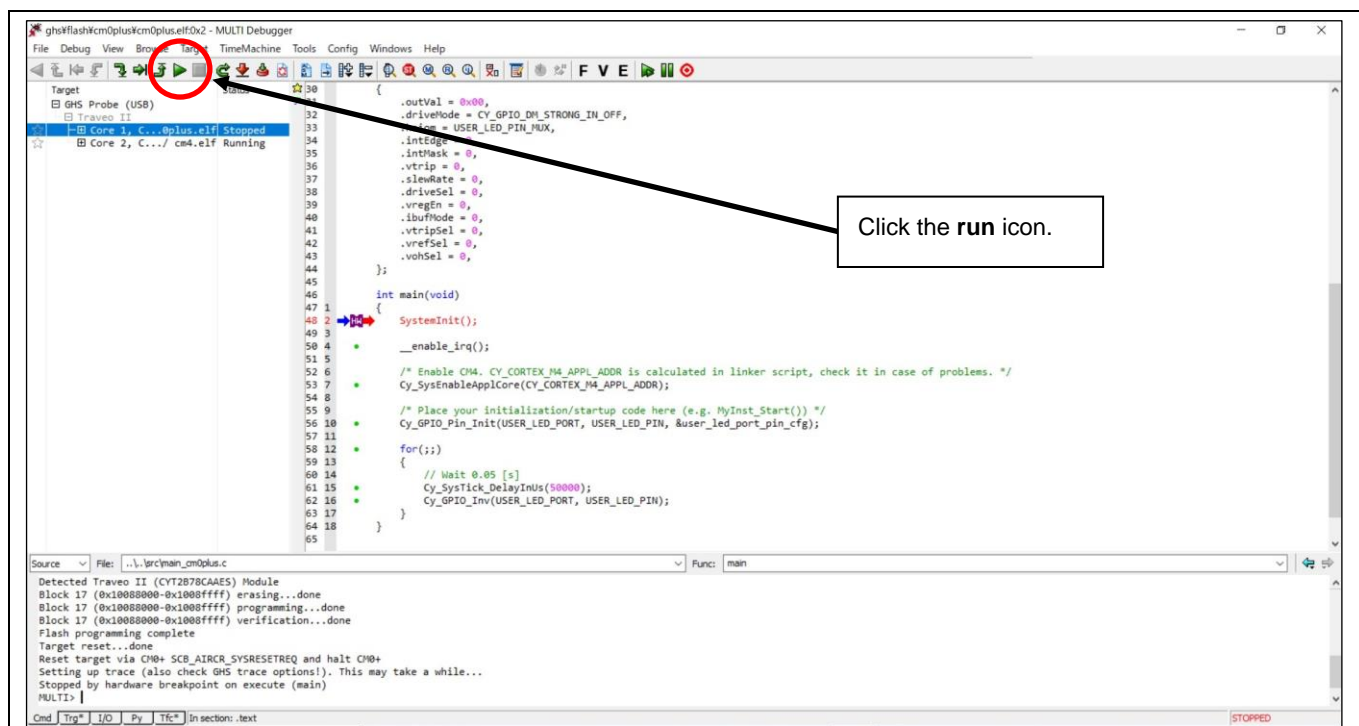

Figure 18 Execution on Flash memory
- Click the **run** icon as shown in **Figure 18**.